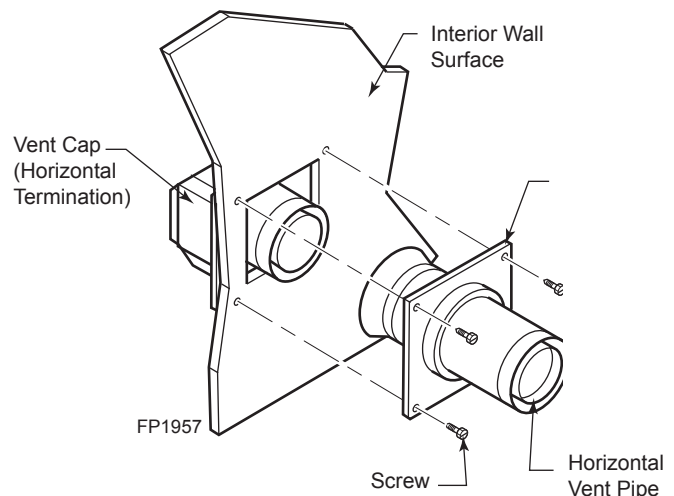

Figure 21 - Connecting Vent Cap with Horizontal Vent Pipe
5. Slide fire stop over the vent pipe before connecting horizontal run to vent cap. *Figure 21*
7. Slide fire stop against the interior wall surface and attach with screws. *Figure 21*